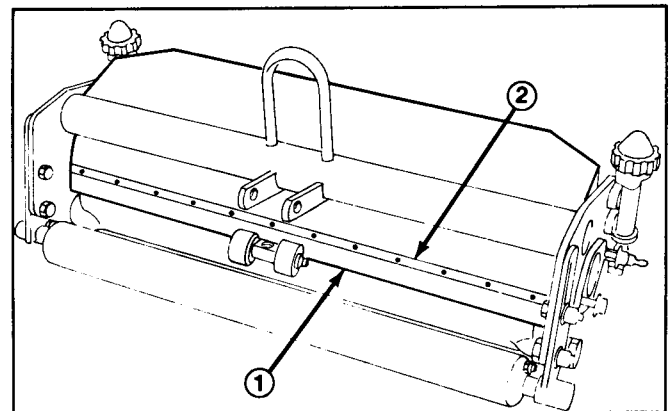

Figure 27
10. To install bedbar, slide it into position between side plates, making sure each end of bedbar is under shield (Fig. 27).